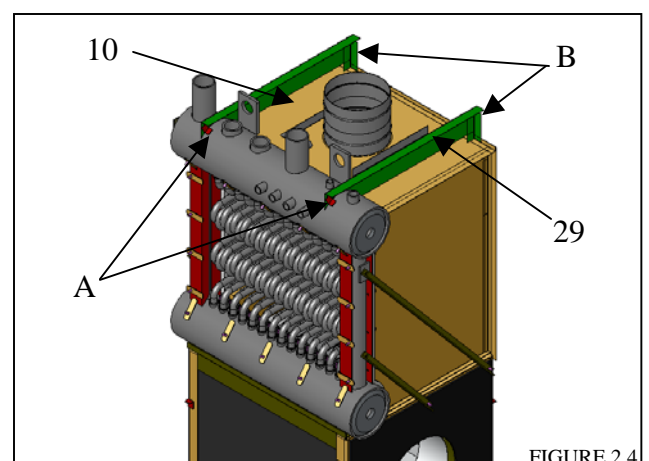

FIGURE 2.4
- 2.7 Install boiler flue collector top (Item #10), screw top in place along all four edges with screws provided. See Figure 2.4.
- 2.8 Assemble the two jacket support angles (Item #29) by screwing the supports into ears welded on top of pressure vessel (point A) and screwing the two 12" long angles into the support ends (point B). See Figure 2.4.